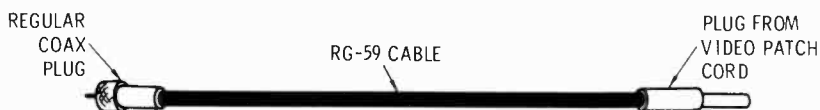

Fig. 11-15. A scope cable made with RG/59 coax cable and the plug from a regular video patch cord.
3. An excellent scope cable for test purposes, especially for measuring right in the jack field, can be made from RG-59 coax cable. On one end of this cable, mount a regular male coaxial cable connector. On the other end, use the plug from a regular video patch cord (Fig. 11-15). Now you can plug directly into the jack field and will have a termination available at the scope, if needed. Since you tore up a video patch cord, you still have one plug left over. Make up another one of the cables described above. This can be used to feed such things as a sweep generator directly into the jack field.